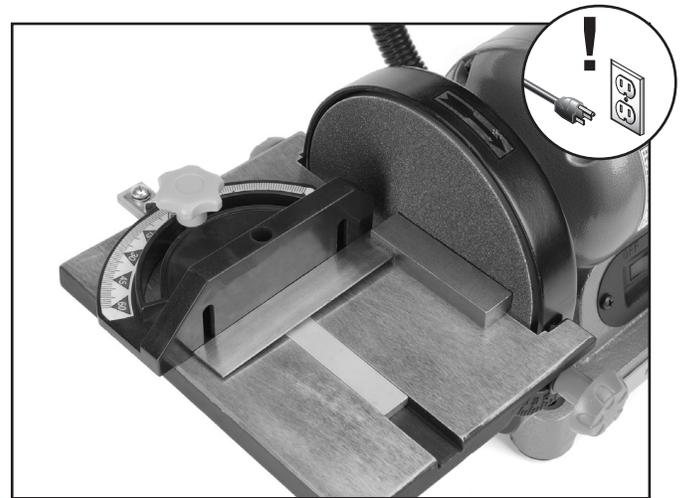

Figure 7. Squaring the miter gauge.
- Use a machinist square with one edge against the face of the miter gauge and the other against the disc face as shown in **Figure 7**.